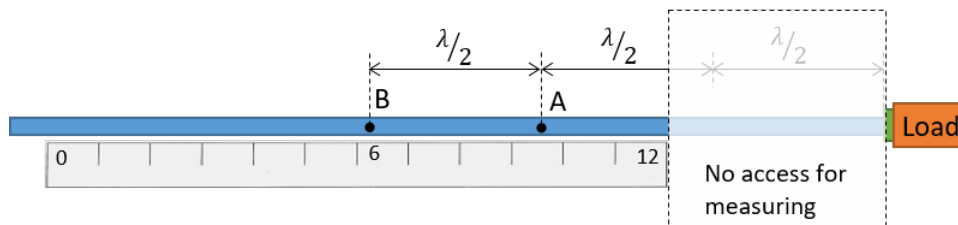

Figure 3: Limited access measurement environment
3. It is well known that input impedances along the TL at locations multiple integers of half-wavelength apart are exactly same. This property is very useful when it comes to measurements where the absolute distance along the TL is partly unavailable to us. One of the most important steps in such measurement scenarios is to locate points that are multiple integers of a half-wavelength away from the load (i.e. to locate A and B in Figure 3). Assuming that we have full knowledge of the TL termination and access to all measurement equipment that is used in this experiment (see the list below), how would we find these points?